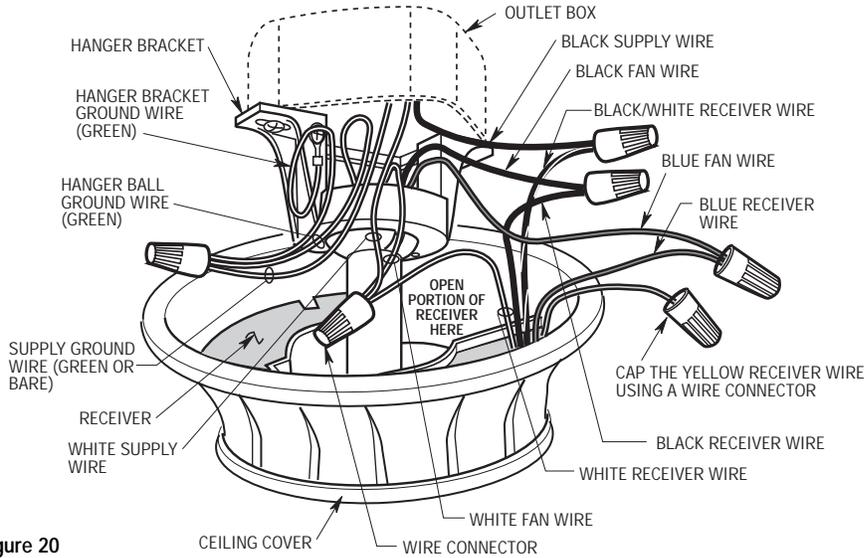

Figure 20
- 1. Pull the wire leads, coming from the end of the downrod, and the supply wires through the open side of the hanger bracket. (Figure 20).
- 2. Position the SW105 Receiver in the ceiling cover so that the flat side of the receiver faces up and the open portion of the receiver is to the right, as shown in Figure 20.
- 3. Using wire connectors (supplied), make wiring connections as follows (Figure 20 and 21):